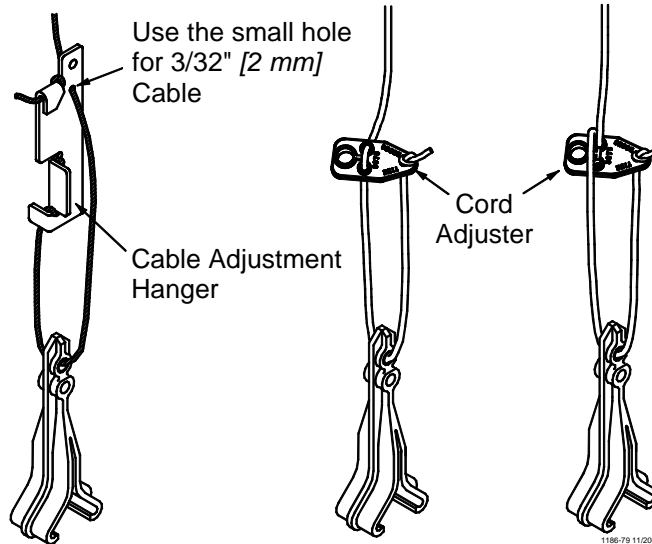

Figure 8. Cable Drop Installation
- Cable drop installations: Install an Adjustment Leveler on each drop line. See **Figure 8**.
Cord drop installations: Install a Cord Adjuster on each drop line. See **Figure 8**.